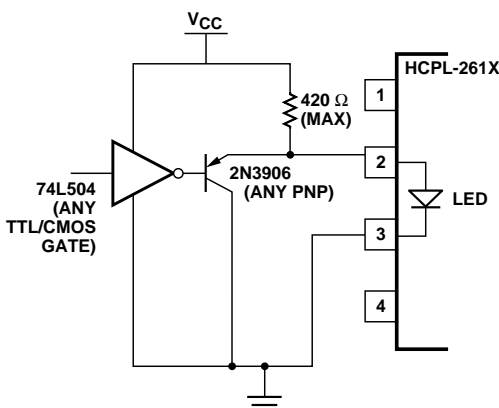

Figure 22. TTL Interface Circuit for the HCPL-261A/-261N Families.
1. Use of drive circuits where current is shunted from the LED in the LED “off” state (as shown in Figures 22 and 23). This is beneficial for good  $CMR_H$ .
Using any one of the drive circuits in Figures 22-24 with  $I_F = 10$  mA will result in a typical  $CMR$  of 8 kV/ $\mu$ s for the HCPL-261N family, as long as the PC board layout practices are followed. Figure 22 shows a